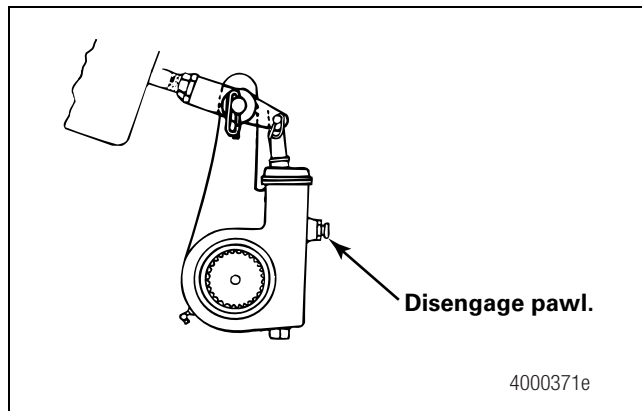

Figure 1
2. Use a wrench to turn the adjusting nut COUNTERCLOCKWISE until the brake shoes contact the drum. Figure 1. Then back off the adjusting nut in the opposite direction 1/2 turn for drum brakes.